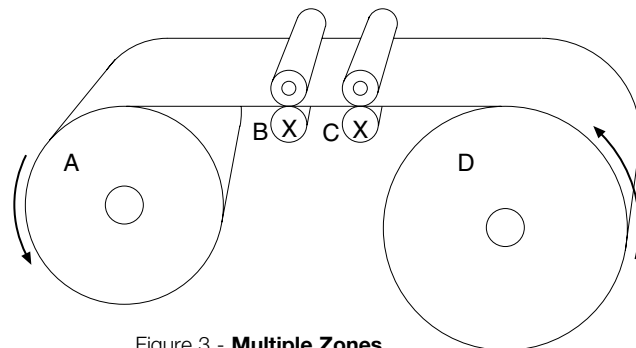

Figure 3 - Multiple Zones (winder, intermediate, unwind)
**III.** More complex machines will usually have multiple intermediate zones in addition to the unwind and rewind zones (see Fig. 3). One of the intermediate zone drives will typically establish line speed, and the control of drive rolls for the other zones will relate to this drive. In some instances, a simple master/follower relationship with a speed differential ratio will provide the draw tension necessary in that zone (i.e. Fig. 3 – B & C). In other cases, this may be accomplished with